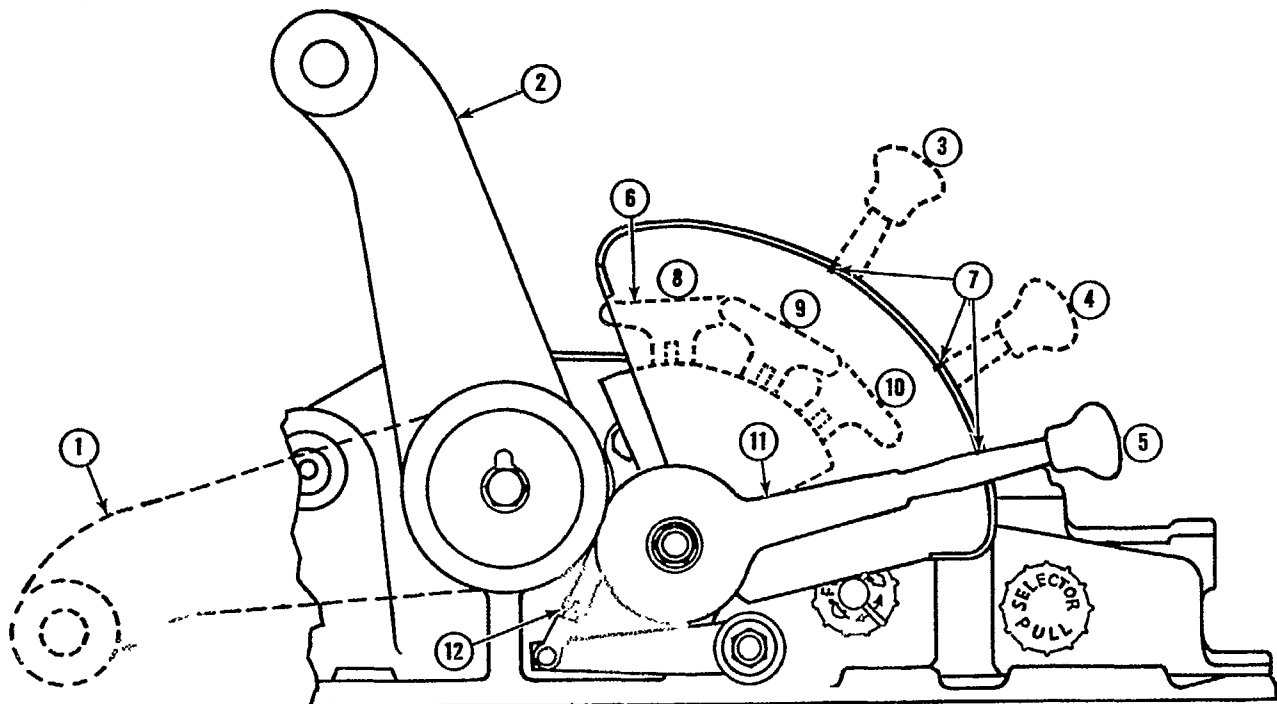

Figure 10
1. With the system selector lever, Figure 10, set for position control, the lift control lever at the bottom of the quadrant, and the lift arms fully lowered, loosen the set screw and turn the draft control spring retainer nut at the rear of the lift cover housing clockwise until the draft control mainspring pressure is felt.
1. Manually position the lift arms in their fully raised position, Figure 10.
3. Position the lift control lever so that the upper edge is aligned with the position control adjustment notch on the quadrant. Refer to Figure 10. (Row Crop Tractors: Align the lower edge of the lift control lever with the notch).
5. Adjust the length of the selector lever clevis (12), Figure 10, until the foot of the gauge is in contact with the control rod roller, then tighten the selector lever clevis lock nut.
2. Set the lift control lever so that the upper edge aligns with the Load Monitor adjustment notch in the quadrant, Figure 10.
2. Set the lift control lever so that the upper edge aligns with the draft control adjustment notch in the quadrant, Figure 10.